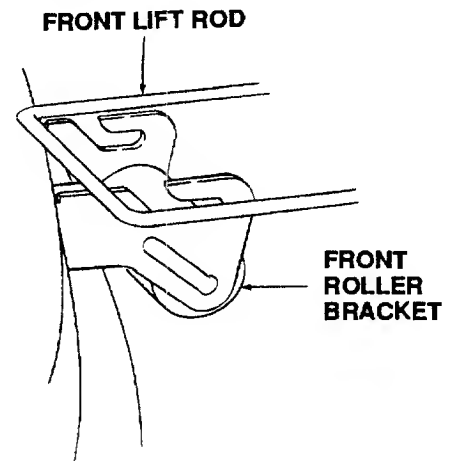
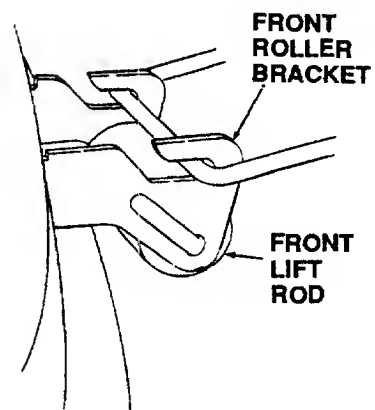

Figure 49
Figure 50
6. Hold the front lift rod upward and slide the mower deck forward. Lower the front lift rod so it rests to the rear of the front roller bracket slots of the deck. (Refer to Figure 49.) Slide the deck rearward in order to engage the front lift rod fully forward in the slots of the deck front roller bracket. (Refer to Figure 50.)